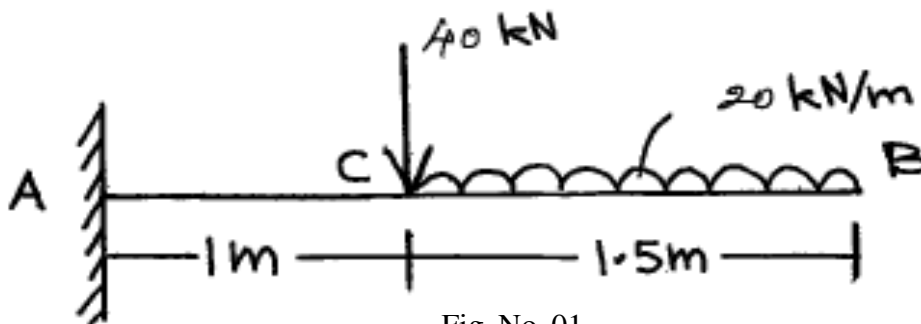

Fig. No. 01
- b) A cantilever beam is loaded as shown in Fig. No. 01. Draw SFD and BMD. 4